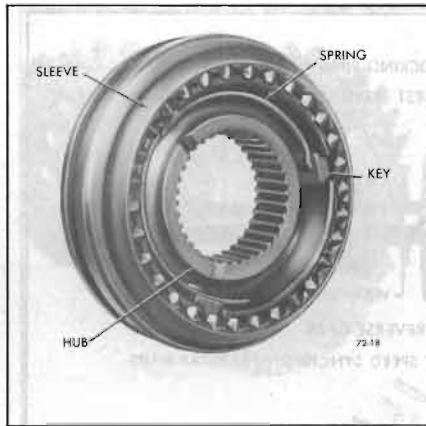

Figure 72-18—Synchronizer Assembly
- Place the three (3) keys and two springs in position (one on each side of hub) so all three (3) keys are engaged by both springs. See Figure 72-18.